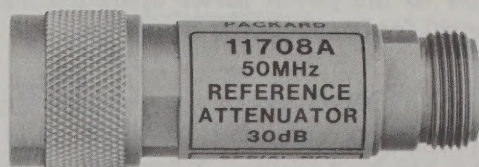

Figure 1. HP 11708A 30 dB Reference Attenuator
15. Included with the Power Sensor is the HP 11708A 30 dB Reference Attenuator (Figure 1). This is used to reduce the RF reference voltage applied by the power meter to the Power Sensor when calibrating the system before use. (The calibration procedure adjusts the power meter for the particular Power Sensor and for ambient temperature.) Because of the high sensitivity of the HP 8484A Power Sensor, the 50 MHz 1 mW reference input supplied by the power meter must be reduced to 1  $\mu$ W; the Reference Attenuator provides the means to accomplish this. Further, the Reference Attenuator is intended for use at only 50 MHz, the adjustment frequency, and should be used only for calibrating the power meter for a Power Sensor. The Reference Attenuator is a highly accurate device, intended only for this specific function.